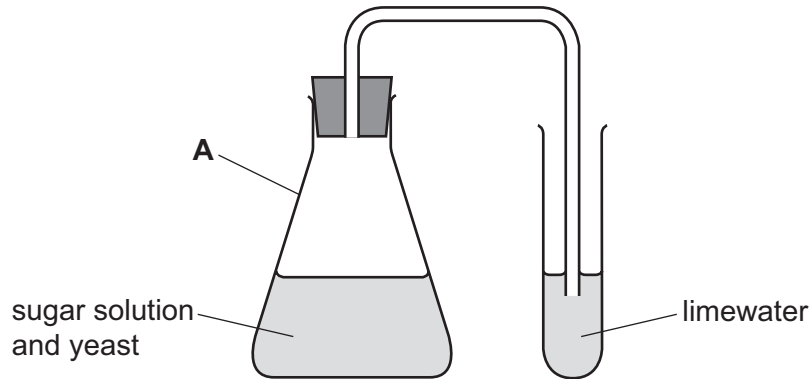

Fig. 1.1
**step 5** Place the mixture obtained in the apparatus shown in Fig. 1.1.
- (a) Name the item of apparatus labelled **A** in Fig. 1.1.